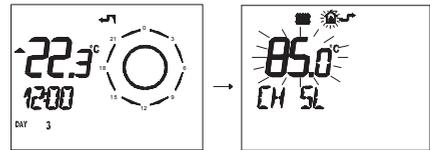

Fig. 7.31
- Press button  for more than 3 seconds to enter in **INFO** mode (Fig. 7.31).